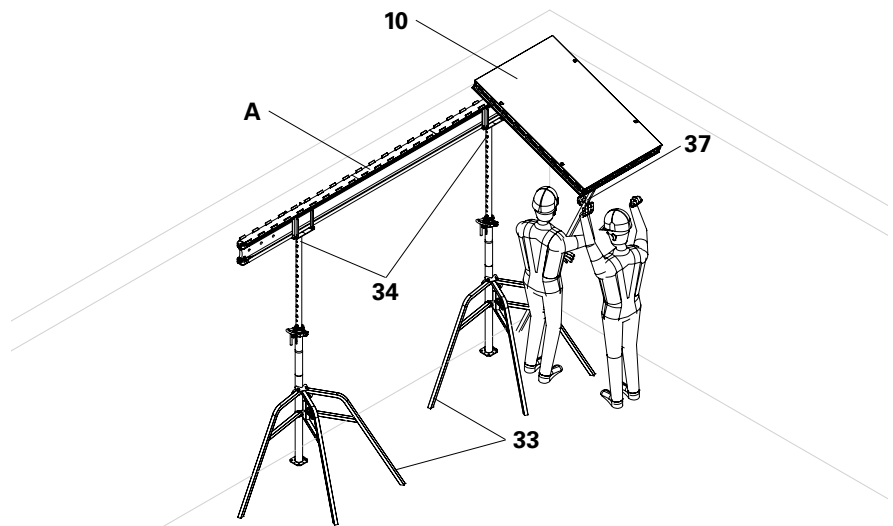
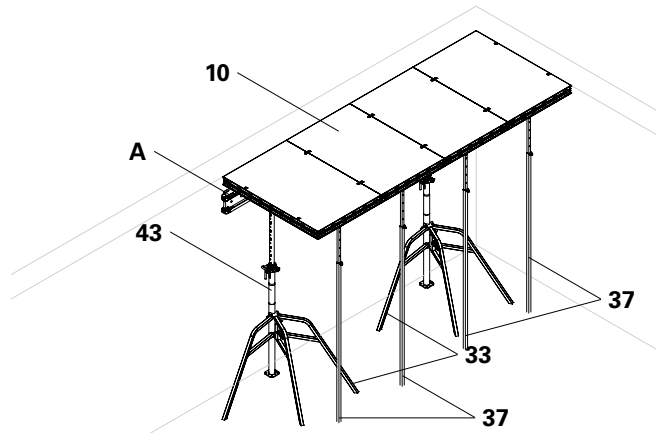

Fig. D6.11
Fig. D6.12
- Push the DP panels (10) upwards using the DUO shuttering aid (37) (Fig. D6.11) and leave the DUO shuttering aid standing under the panel. (Fig. D6.12 + D6.13)